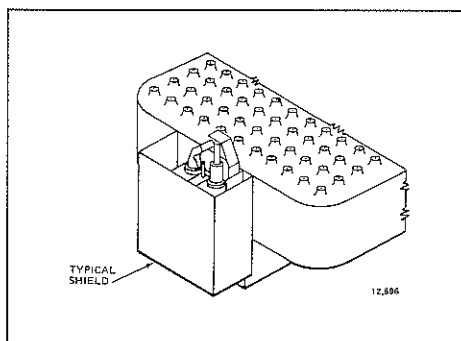

Fig. 6—Proper shielding of pilot flame.
3. If all mounting and location instructions are followed but pilot continues to go out, construct shielding to protect pilot flame from main burner ignition and extinction and drafts. Refer to Fig. 6.
- Check the pilot flame. Make sure it is blue, steady and envelops 3/8 to 1/2 in. [10 to 13 mm] of the igniter-sensor. See Fig. 6 for possible flame problems and their causes.